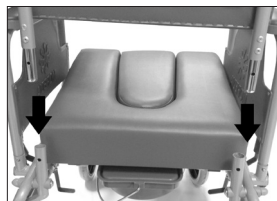

FIG. 2
- For assembly of the backrest, it is sufficient to slide the two ends of the tubes into the specific housings on the back of the seat (FIG. 2).